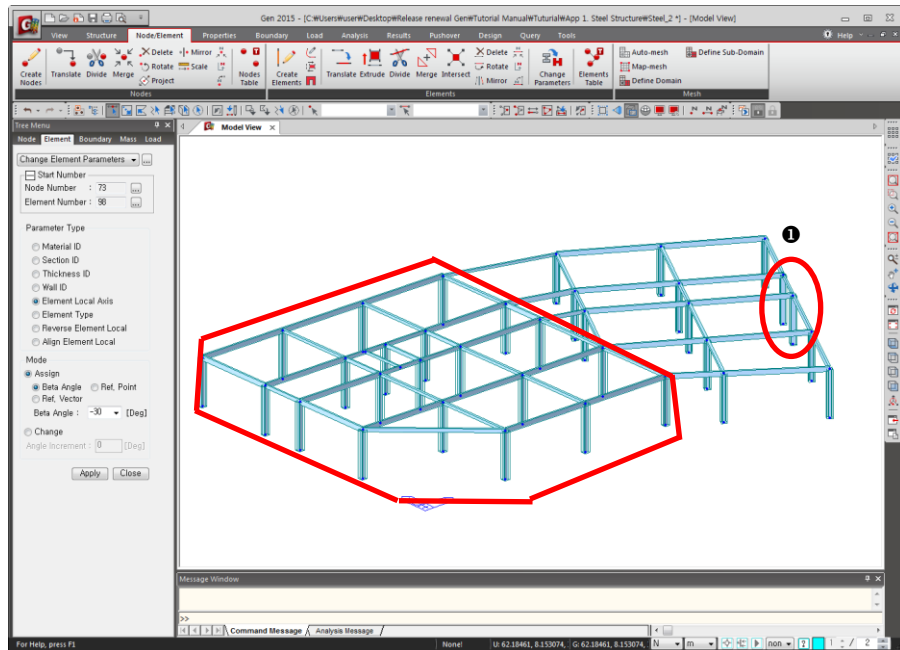

Figure 1.22 Unselect Polygon
**Select Single** (Refer to ❶ of Figure 1.22)